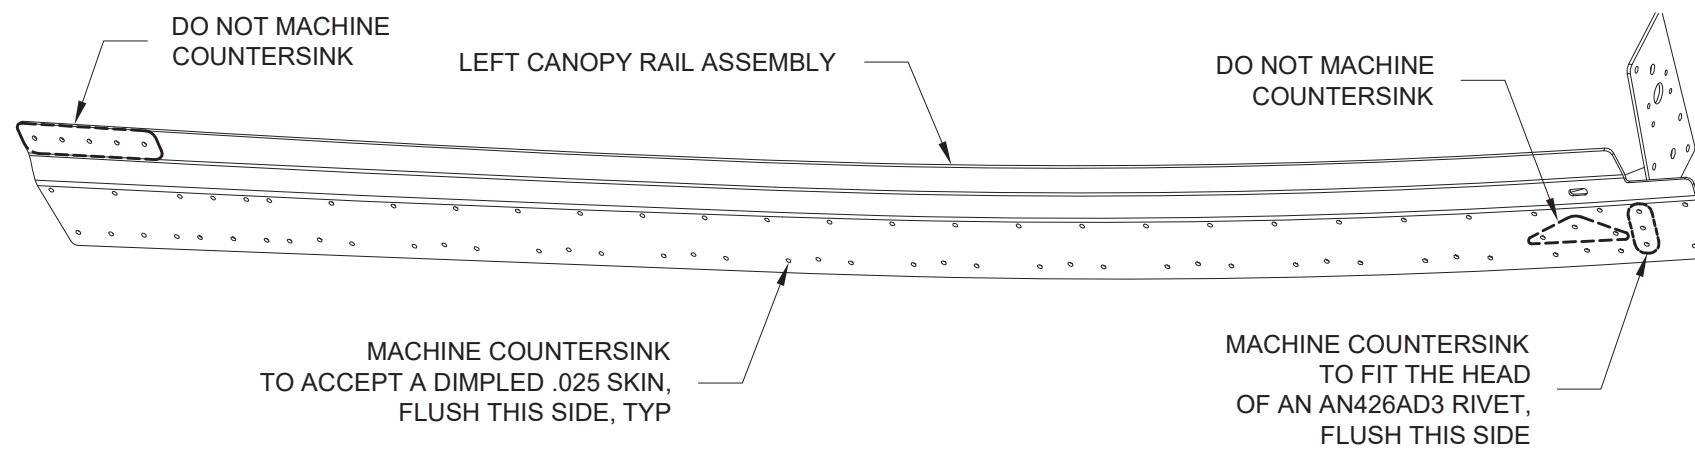

FIGURE 1: MACHINE COUNTERSINK CANOPY RAIL ASSEMBLY
Step 1: Except as indicated, machine countersink the open holes in the Left Canopy Rail Assembly as shown in Figure 1.